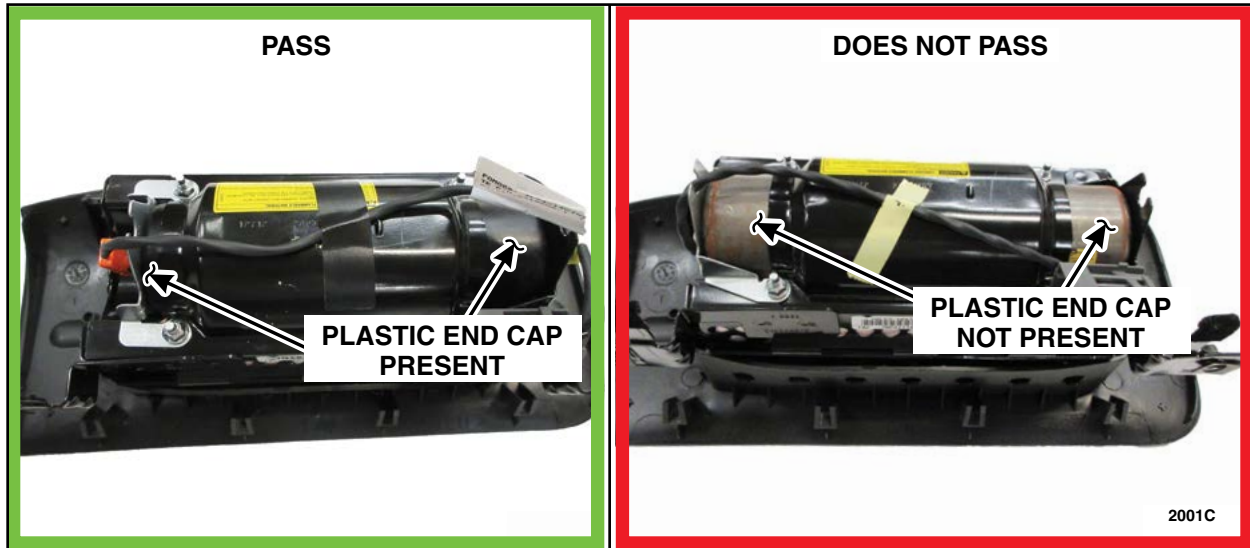

FIGURE 1
3. Inspect the passenger airbag inflator end for the presence of a plastic end cap as shown in Figure 1. Is the plastic end cap present on the airbag inflator?